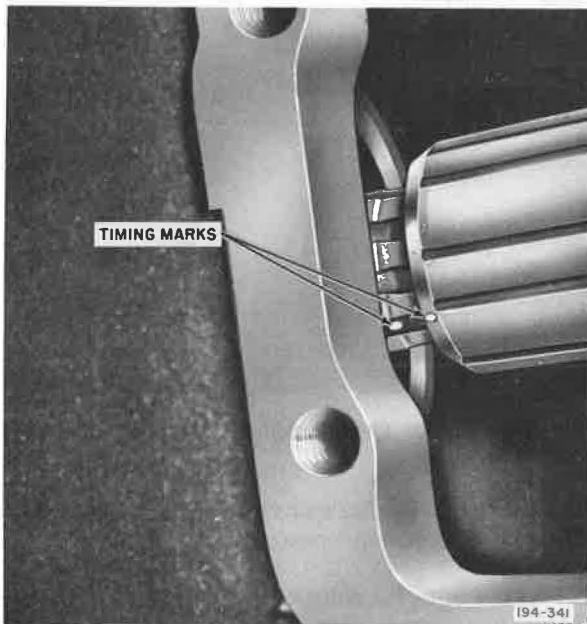

Figure 5-1 . Countershaft Timing Marks
4. Slide countershaft rearward slightly and **OBSERVE TIMING "O" MARKS** on front and rear countershaft splines. See Figure 5-1. If timing "O" marks are not visible, mark each countershaft so that it will be properly timed at reassembly.
8. Align timing mark on rear countershaft with timing mark on front countershaft. See Figure 5-1 . Advance shaft until countershaft rear bearing positioning snap ring seats against case.